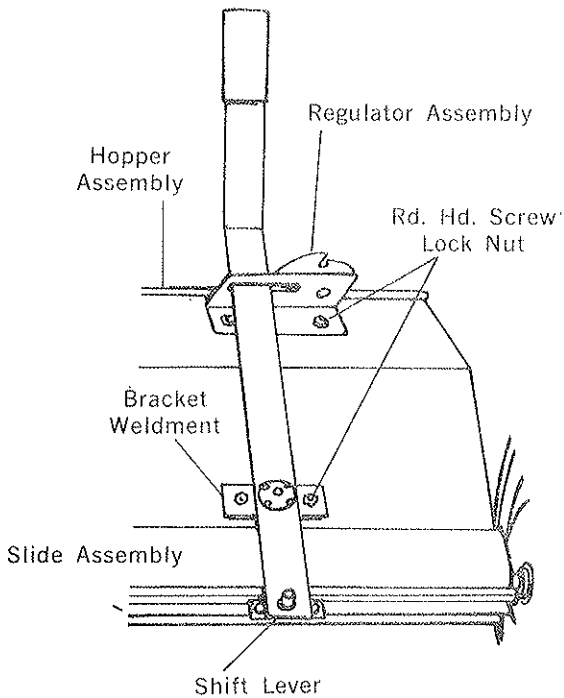

Figure 6
4. Fig. 6, Ref. Fig. 1, Sec. C-C - Slide the Lever through the Regulator Assembly Bracket. Now attach the Bracket Weldment to the Lever as shown in Fig. 1, Sec. C-C, using the Spacer, Washers and Lock Nut. Now place the Slot at the bottom of the Shift Lever over the